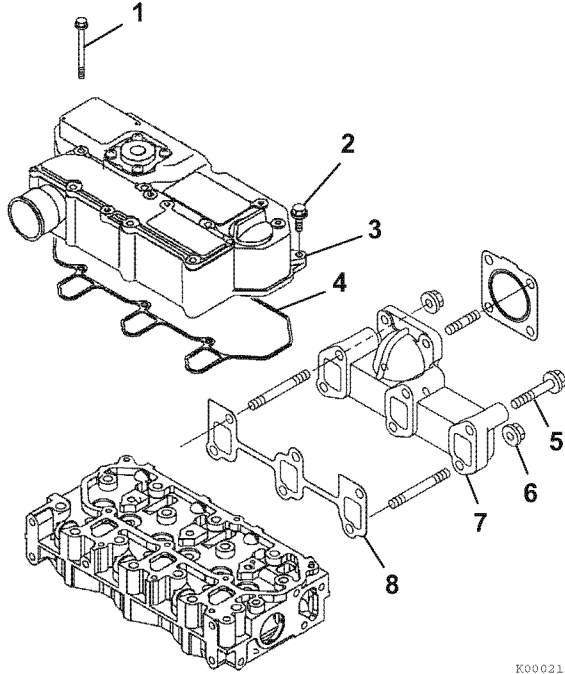

Figure 6-2
1. Remove the intake manifold bolts (1, **Figure 6-2**) and valve cover bolts (2, **Figure 6-2**).
2. Remove the valve cover/intake manifold (3, **Figure 6-2**). Discard gasket (4, **Figure 6-2**).
3. Remove the exhaust manifold bolts (5, **Figure 6-2**) and nuts (6, **Figure 6-2**). Remove the exhaust manifold (7, **Figure 6-2**) and the exhaust manifold gasket (8, **Figure 6-2**).